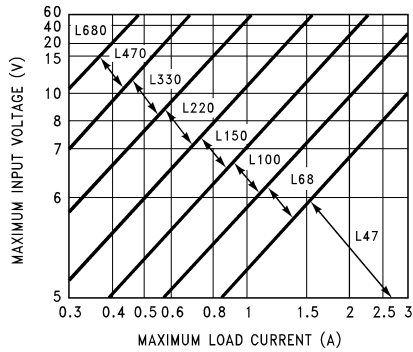
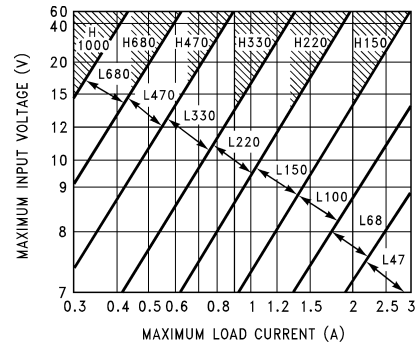

Figure 8-4. LM2576(HV)-3.3
Figure 8-5. LM2576(HV)-5.0
The inductor value selection guides in Figure 8-4 through Figure 8-8 are designed for buck regulator designs of the continuous inductor current type. When using inductor values shown in the inductor selection guide, the peak-to-peak inductor ripple current is approximately 20% to 30% of the maximum DC current. With relatively heavy load currents, the circuit operates in the continuous mode (inductor current always flowing), but under light load conditions, the circuit is forced to the discontinuous mode (inductor current falls to zero for a period of time). This discontinuous mode of operation is perfectly acceptable. For light loads (less than approximately 300 mA), it can be desirable to operate the regulator in the discontinuous mode, primarily because of the lower inductor values required for the discontinuous mode.
1. Select the correct Inductor value selection guide from Figure 8-4, Figure 8-5, Figure 8-6, or Figure 8-7. (Output voltages of 3.3 V, 5 V, 12 V or 15 V respectively). For other output voltages, see the design procedure for the adjustable version. Use the selection guide shown in Figure 8-5.
3. Identify the inductor value from the inductor code, and select an appropriate inductor from the table shown in Figure 8-4. Part numbers are listed for three inductor manufacturers. The inductor chosen must be rated for operation at the LM2576 switching frequency (52 kHz) and for a current rating of $1.15 \times I_{LOAD}$. For additional inductor information, see Section 8.1.2. Inductor value required is 100 μH from the table in Figure 8-4. Choose AIE 415-0930, Pulse Engineering PE92108, or Renco RL2444.